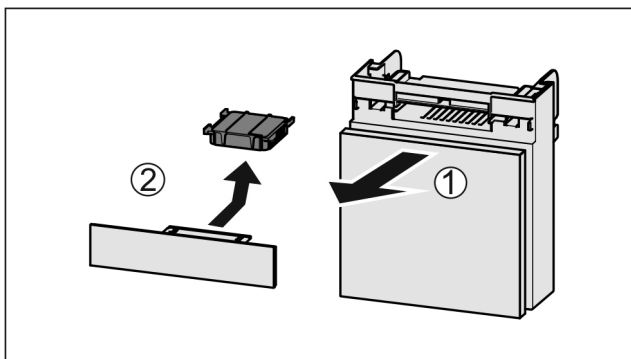

Fig. 111
- ▶ Pull out the compartment Fig. 111 (1).
- ▶ Remove the carbon filter Fig. 111 (2).